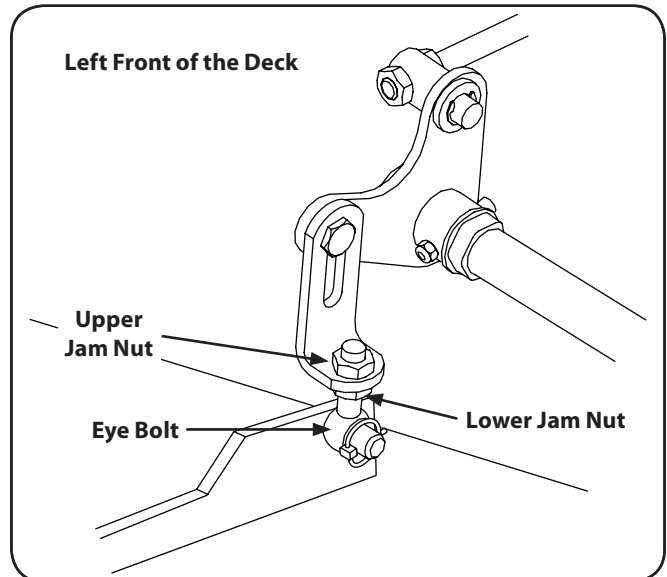

Figure 6-8
4. Adjust the eyebolt at the left front of the deck so that the blade-to-ground height at the right front blade tip matches that of the left front blade tip. This is done by loosening the jam nuts on the eyebolt and tightening the upper nut to raise the deck and loosening the nut to lower the deck. The right front blade tip height is fixed so you must adjust the left front tip to match it. See Fig. 6-8.